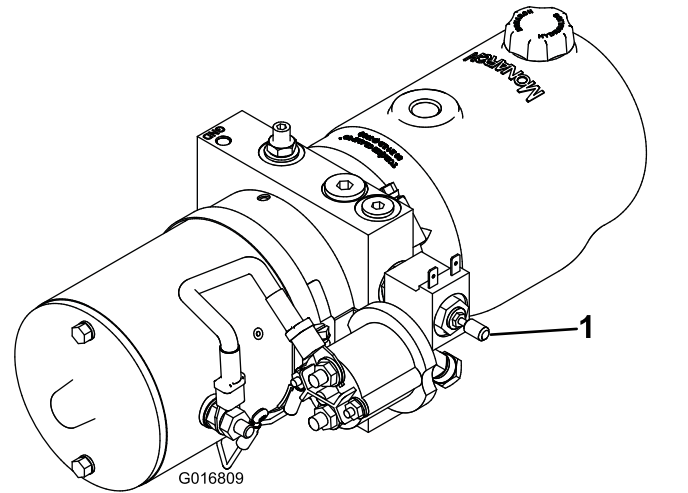

Figure 22
Push the blue knob inward, rotate it 90 degrees counterclockwise, and pull it out to activate the emergency lowering valve (Figure 22).
1. Push the blue knob inward, rotate it 90 degrees counterclockwise, and pull it out to activate the emergency lowering valve (Figure 22).